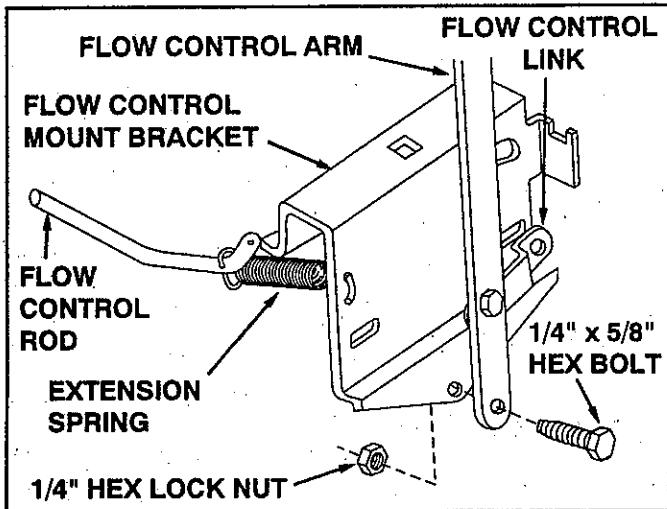

FIGURE 10
15. Assemble the flow control arm to the flow control mounting bracket using one 1/4" x 5/8" hex bolt and one 1/4" hex lock nut. See figure 10. **DO NOT OVER TIGHTEN, FLOW CONTROL ARM MUST PIVOT FREELY.**
16. Hook one end of extension spring through small hole near bend in flow control rod and the other end through hole in flow control mounting bracket. See figure 10.